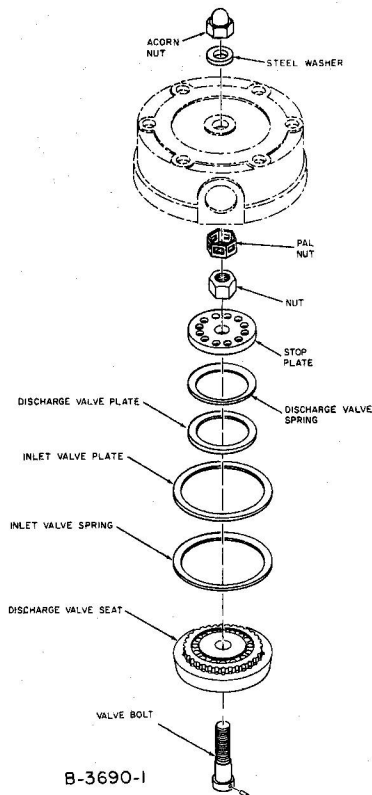

Figure 3-1. Concentric Ring-Type Valve
(A) Loosen the valve acorn nut as shown in Figure 3-1; then take out the air head cap screws and remove the air head from the cylinder.